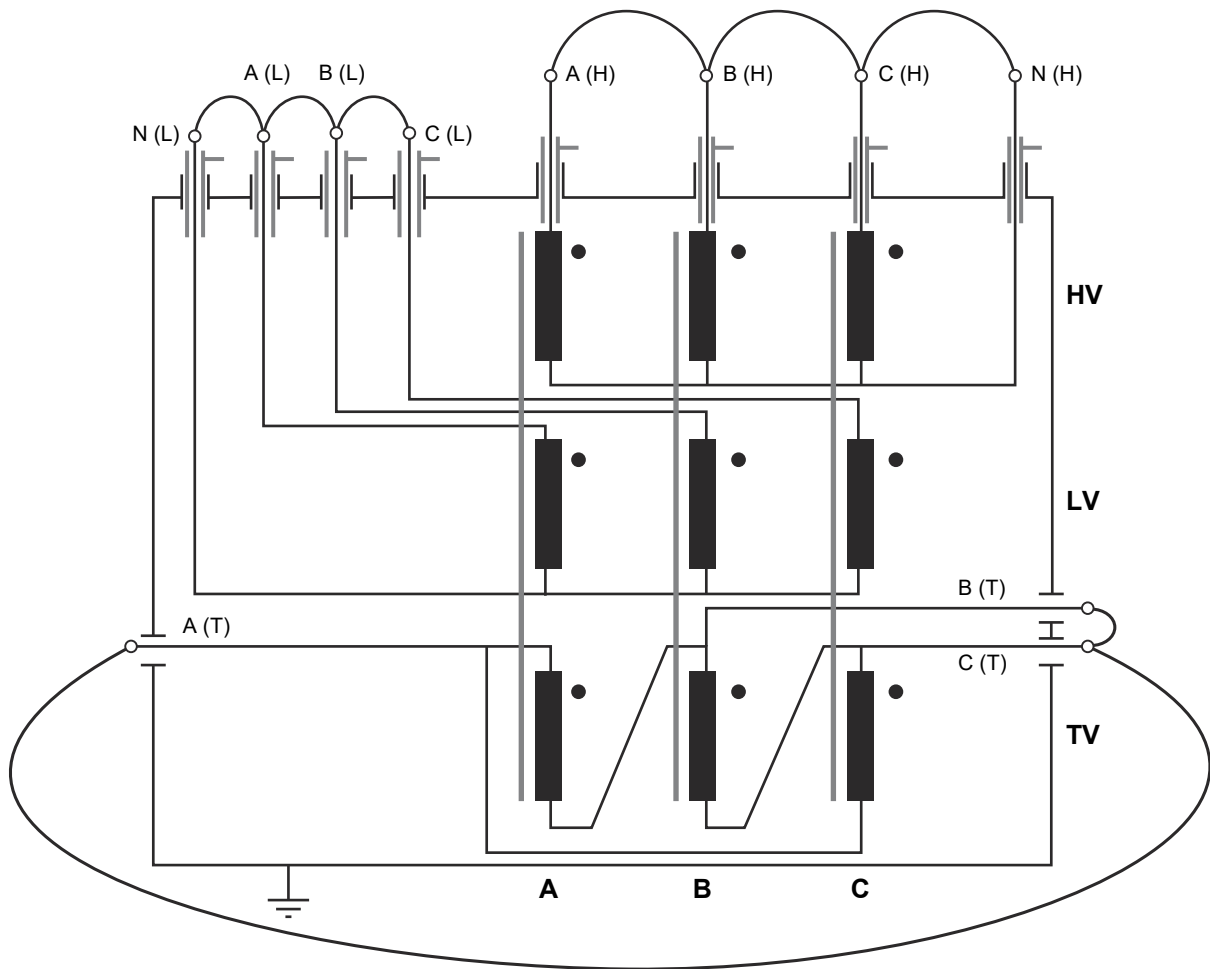

Figure 5-1: Three-winding transformer with connected windings
- All bushing terminals of one winding group, which means A, B, C (and Neutral) of high-voltage winding, A, B, C (and Neutral) of low-voltage winding and A, B, C (and Neutral) of tertiary winding have to be connected by a copper wire (see Figure 5-1).